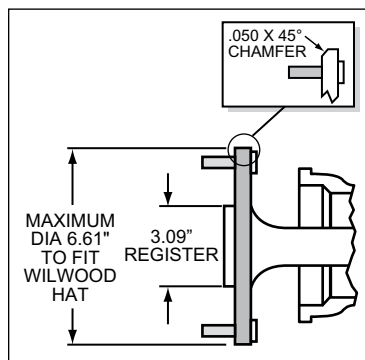

Figure 3. Axle Flange Maximum Dimension
- Axle center register diameter is 3.09", Figure 3.
•Maximum axle flange diameter must be no larger than 6.61" w/.050" x 45° chamfer, Figure 3.